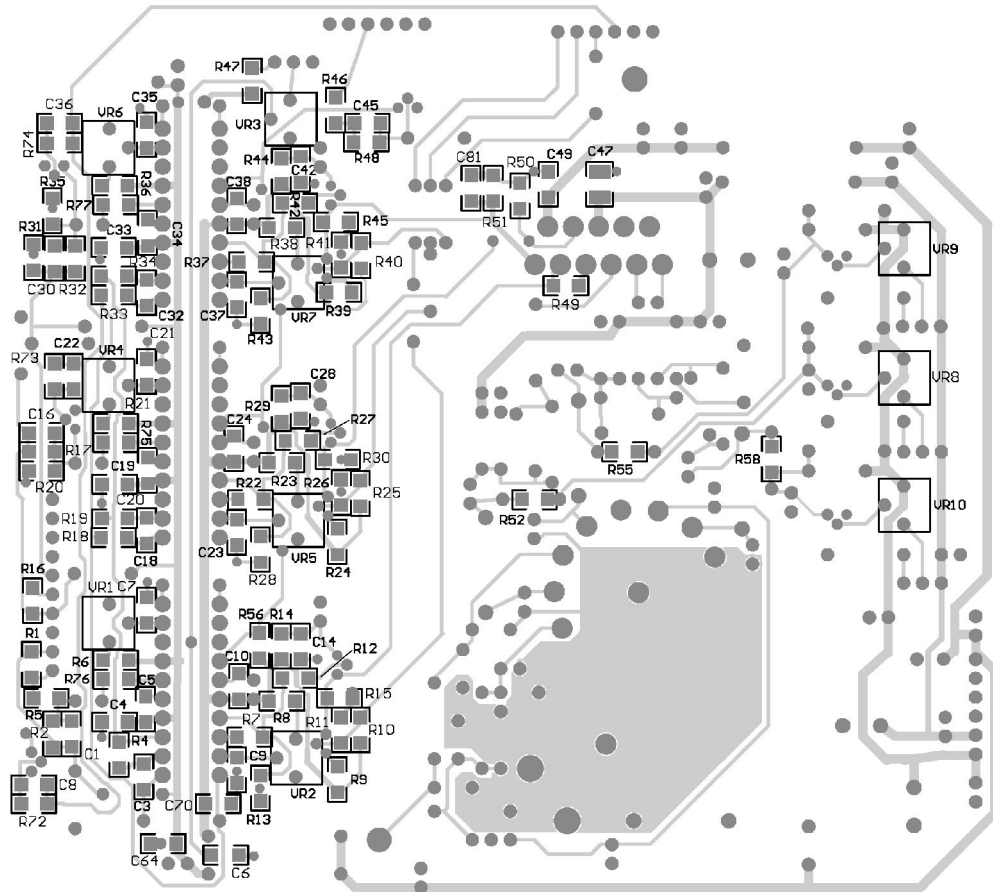

FIGURE 12. PCB Bottom Layer
- C47 - VCC bypass capacitor, located very close to pin 6 and ground pins. (*Figure 12*)
- C49 - VBB bypass capacitor, located close to pin 10 and ground. (*Figure 12*)